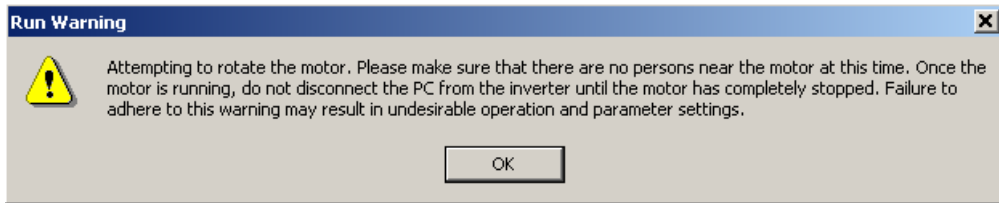

Figure 4.52: Auto-tune Run Warning Window
6. Click on the **Start** button to start the auto-tune. An auto-tune run warning window will appear (Figure 4.52). Click on **OK** to continue the auto-tune.